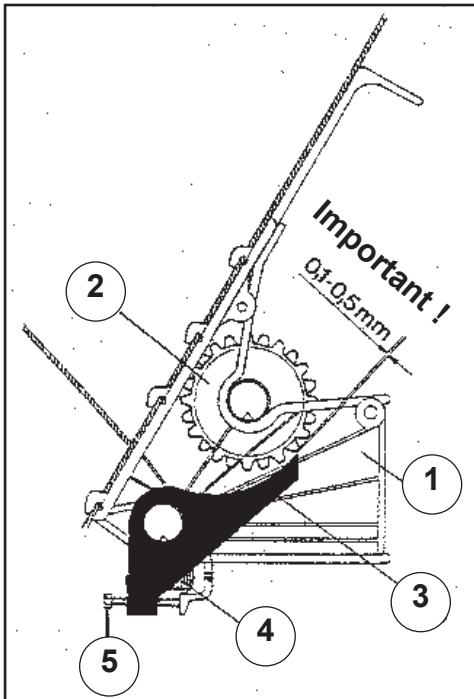

Fig 28
10 Bottom Flaps (Fig 28)
By turning the metering wheel shaft by hand check the flaps are all set to a gap of 0.1 to 0.5mm (refer Fig 28).
To adjust individual flaps use the spring tensioning screw (5) (Fig 28).